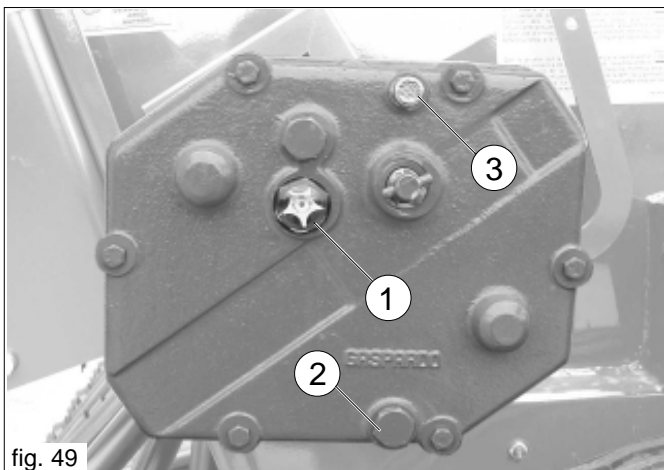

fig. 49
- Check the oil level in the gearbox and top up to level (Fig. 49, «1») whenever necessary using the same type of oil (ACER 22) whenever possible.
- oil drainage plug, 2 Fig. 49;
- oil filling plug, 3 Fig. 49.